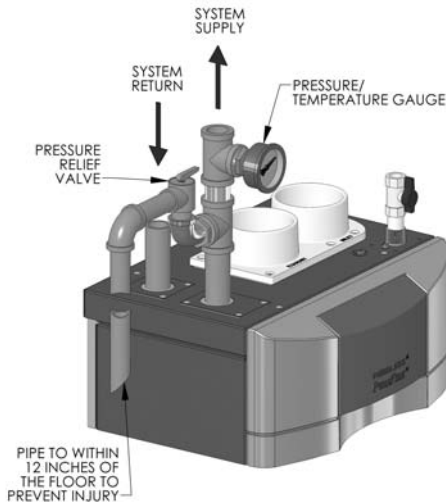

Figure 4.2: Relief Valve Installation – PF-50, PF-80, PF-110 & PF-140
1. *Pressure/Temperature Gauge:* A combination pressure/temperature gauge is provided with each PUREFIRE® boiler to be mounted in the piping from the boiler supply to the system as shown in Figure 4.2 & 4.3. Most local codes require this gauge.
The valve is to be installed as shown in Figures 4.2 or 4.3. Pipe the discharge of the relief valve to within 12" of the floor and close to a floor drain.